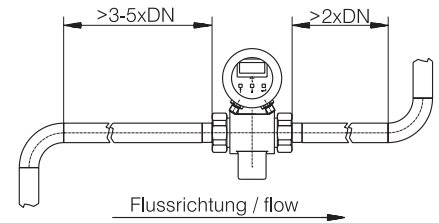

Fig. 1
- + the infeed segment before any valves, T-pieces, elbows etc. should be at least 3-5 times as big as the nominal diameter and the outfeed segment should be 2-times the nominal diameter (Fig. 1)